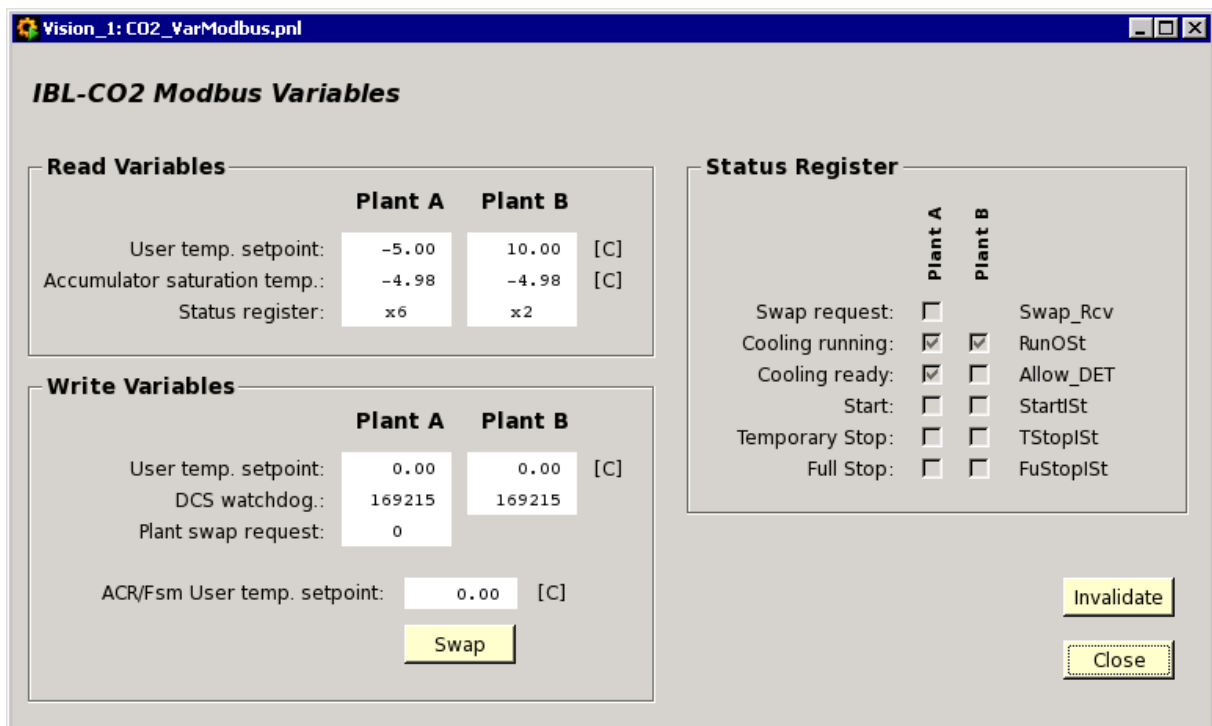

Figure 2: IBL-CO2 MODbus variables
As a result a panel will appear as shown in figure 2.
The MODbus variables could be read/write (DIP in our project is read-only). So, only by MODbus it is possible to issue a command. In figure 2 there are 6 read variables (3 for each plant):
- The *status register*: of which the individual variables are split into the Status-Register-Frame on the right side of figure 2. Some remarks: